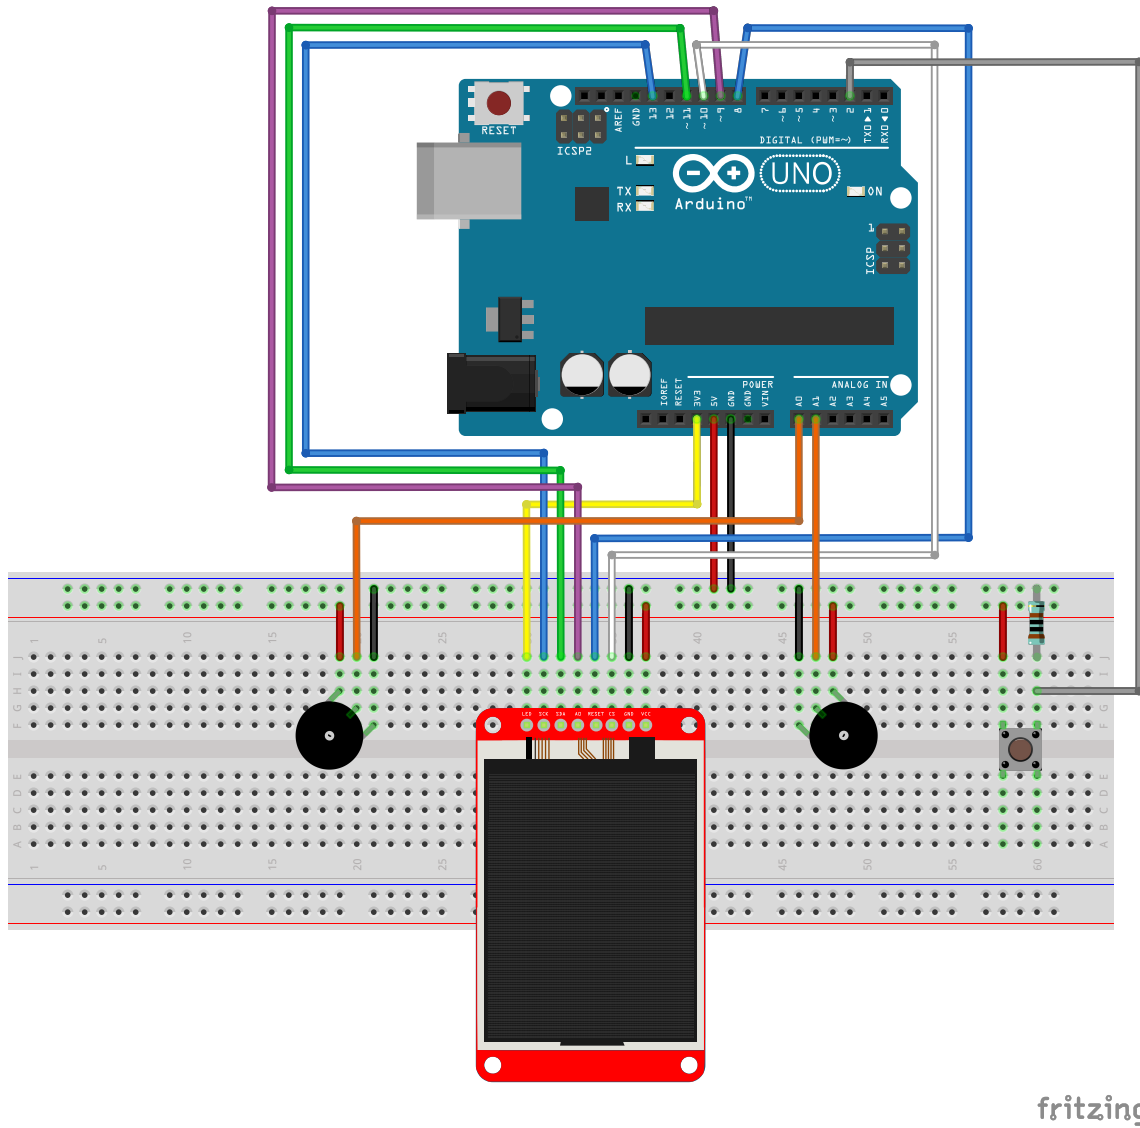

Figure 5.1: Circuit representation for the TFT Etch-a-Sketch project.
5. Connect the TFT display as shown in Figure 5.1. The pins are labeled as follows from left to right with the screen facing up: LED, SCK, SDA, AO, RESET, CS, GND, VCC. The labels shown in the figure are the same as those on the bottom of the display provided in the kit. The wiring connections to the Arduino are shown in Table 5.1. The GND and VCC pins are connected to the negative and positive power rails on the breadboard, respectively.